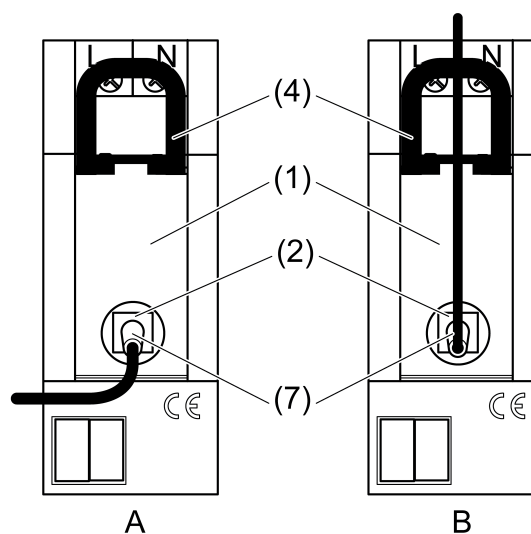

Figure 4
- Insert the antenna connector (7) into the SMB socket (2) of the radio receiver (1) (figure 4).
- Unlock the black slide (4) by pulling up on the end of the bow and pull out slide (figure 4).
- Insert the antenna connector (7) into the SMB socket (2).